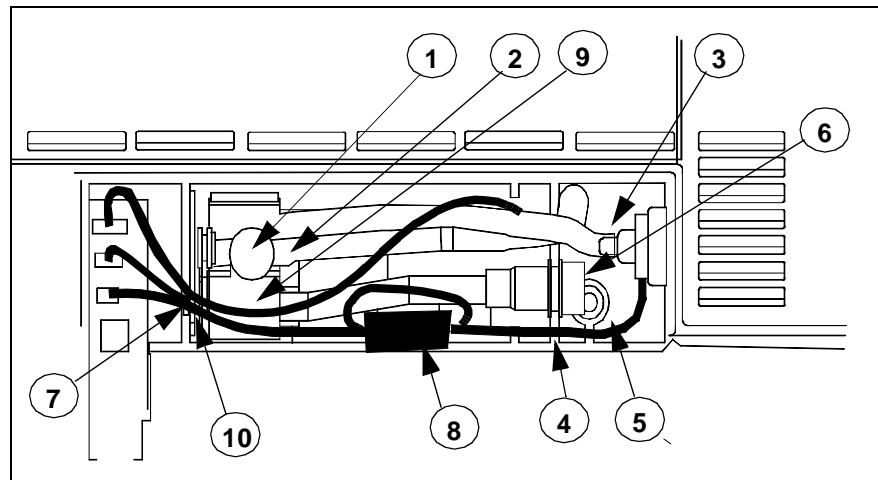

Figure 3-4 NP Subassembly in Rear Housing
Refer to Figure 3-4. The manifold filter ① and air intake filter ⑥ are mounted directly on the NP pump subassembly.
- 2) Refer to Figure 3-4, and using long-nosed pliers, tweezers, or similar tool, carefully pull transducer tubing ② off of mounting port on filter housing ①, and back through slot in retainer plate ④. Observe the following precaution.
- 3) Carefully pull cuff connector tubing (③ in Figure 3-4) off of cuff connector on rear housing, observing precaution above.
- 5) Note dress of cables through ferrite bead (⑧ in Figure 3-4 on page 43) on NP subassembly cables. Note also, that cable from NP coil sensor (⑤ in Figure 3-4) loops through bead twice. Remove and save bead.
- 6) Carefully cut ty-wrap bundling cuff connector ring filter cable (at ⑩ in Figure 3-4) to NP subassembly cables.
- 7) Slide air intake filter holder (⑥) out of slot in retainer plate (④ in Figure 3-4) and move cuff connector filter cable out of slot.
- 8) Grasp pump mounting plate (⑦ in Figure 3-4) and retainer plate (④ in Figure 3-4), and pull NP subassembly straight out of NP compartment.
- 2) Perform steps 1 - 8 of Section 4.7.2 above in reverse order (including re-securing of ferrite bead) to complete installation of replacement NP subassembly. When installing new ty-wrap, be sure to secure near plate (⑦ in Figure 3-4) to keep cables in slot in plastic wall.